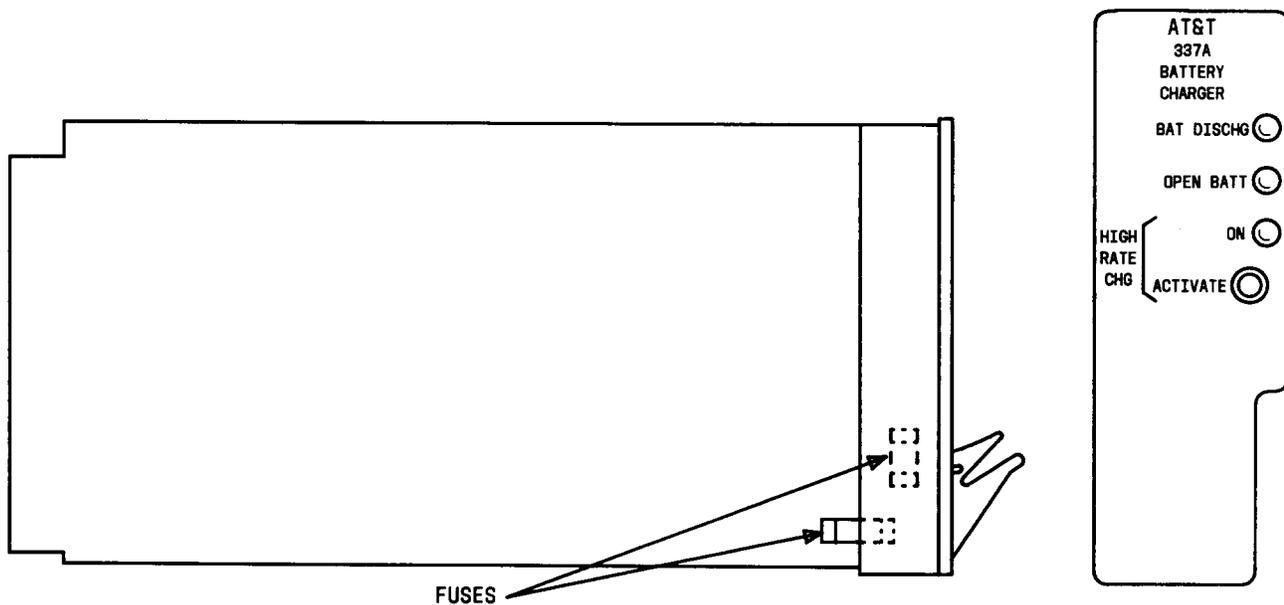

Fig. 1—Location of Fuses on 337A BATTERY CHARGER
2. Verify that fuses on BATTERY CHARGER are not blown (Figure 1).